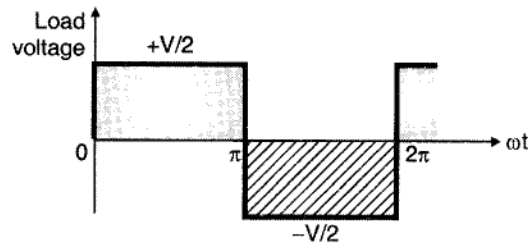

Fig. 3.10 : Load voltage of half bridge inverter
- Refer to Fig. 3.10 . The instantaneous load voltage $V_o(\omega t)$ can be expressed in the fourier series form as follows :